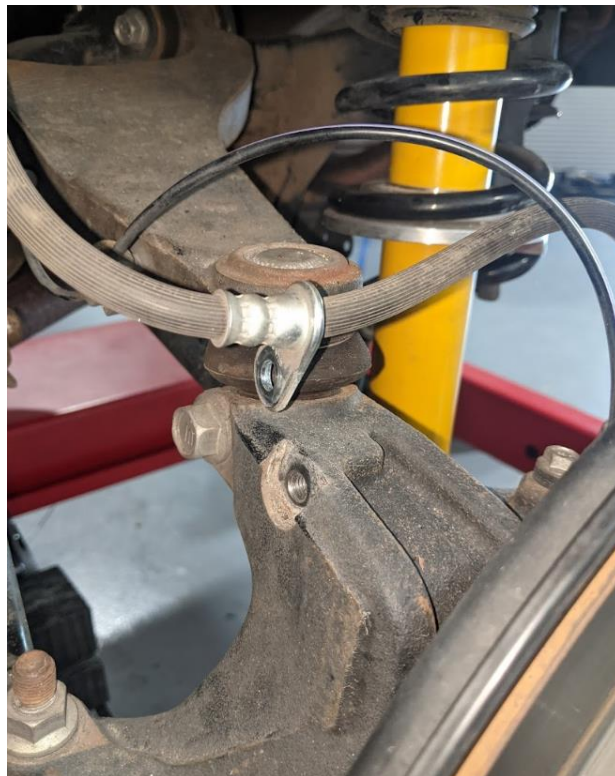

Figure 1
- D. Loosen the OE flange bolt securing the brake line to the spindle as shown below in Figure 1.